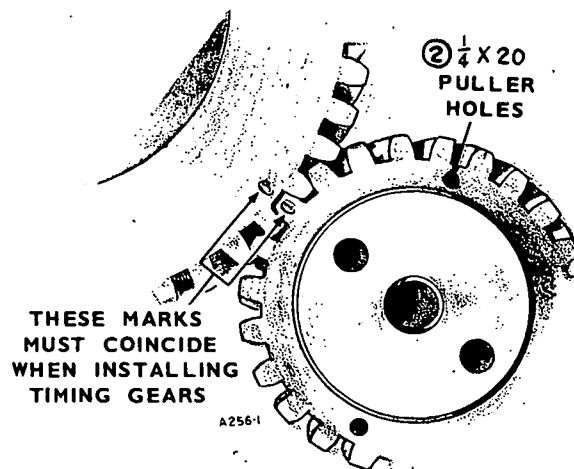

FIGURE 59. TIMING MARKS
5. Install the camshaft assembly in the engine. Align the timing marks on the camshaft gear and crankshaft gear (Figure 59).